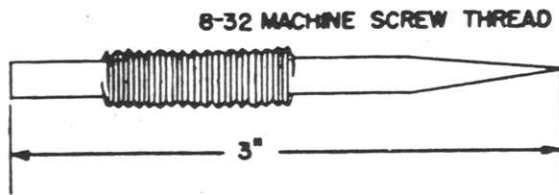

FIGURE 5.
(1) Periodic maintenance should be made every 6 months or equivalent period. Dust should be removed from housing, and the high-voltage slip ring condition inspected. See figure 5. (Do not clean rings if the surface has a bright finish.) It is desirable to have the brushes deposit a film of graphite on the ring. If polishing is necessary use a No. 1 emery cloth followed by a polishing paper.
(2) Brushes should be replaced after wearing half the original length.
If it does become necessary to disassemble the amplidyne, do not remove the brass disk on the motor end of the unit. This disk is approximately 2 inches in diameter and about 3/8-inch thick. Several holes of varying depth are drilled into the circumference. This is the balance collar. Once removed, it is necessary to ship the amplidyne to a navy yard or other repair facility for rebalancing in a dynamic balancer. The exploded views in Section VII of the instruction book of the various "Motor-Dynamo Amplifiers" are very helpful for reference when disassembling and reassembling the amplidynes. Reassembling the amplidyne can be made much simpler if a tool such as the one shown in figure 5 is constructed.